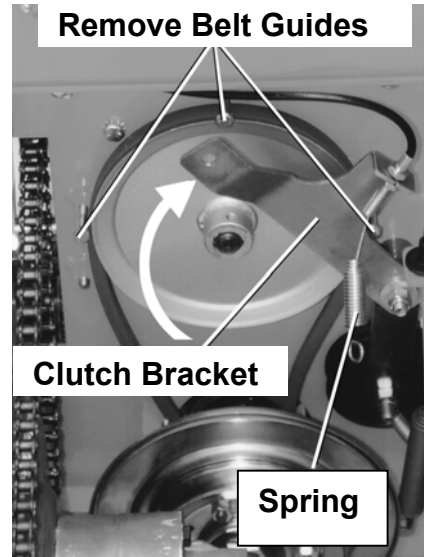

Figure 17
6. Remove the spring (*Figure 17*).
7. Lift and swing the clutch bracket out of the way (*Figure 17*).
8. Remove the three belt guides (*Figure 17*).